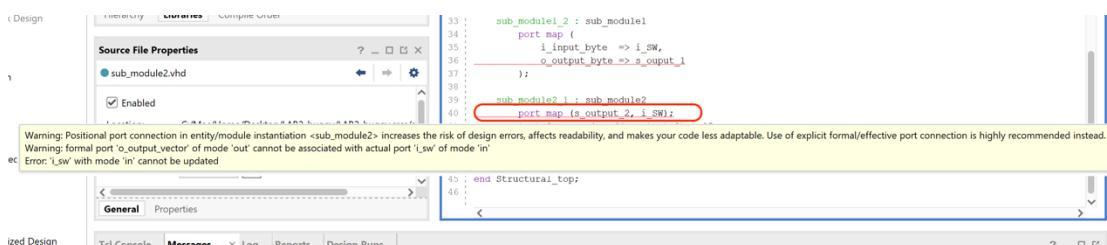

Figure 2.2: Port map error.
- 2) There was a syntax error in how port map was written in the top_module.vhdl (Figure 2.2). However variables are correct, they are inversed in the port map. To fix this error we simply changed the positions of the two variables (Figure 2.3).